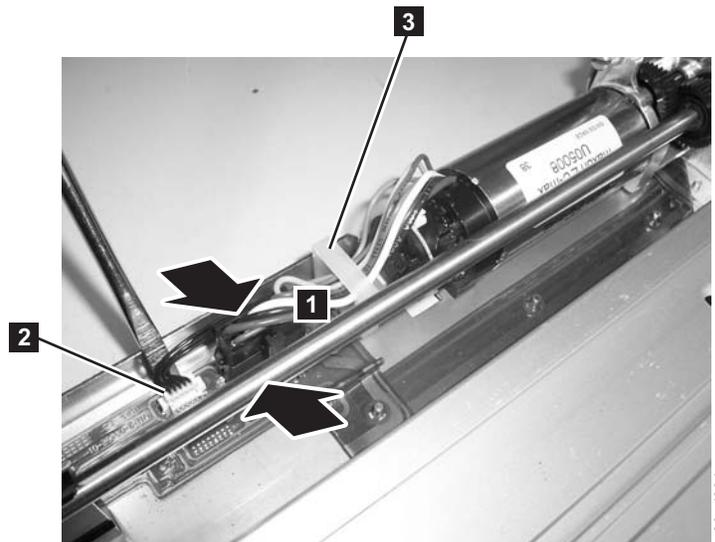

Figure 8-55. Y motor connector
3. Connect the small white connector (**2** in Figure 8-55 on page 8-58).
4. Connect the large black connector. See Figure 8-55.
- a. Pinch the latch on the cable connector ( **1** in Figure 8-55).